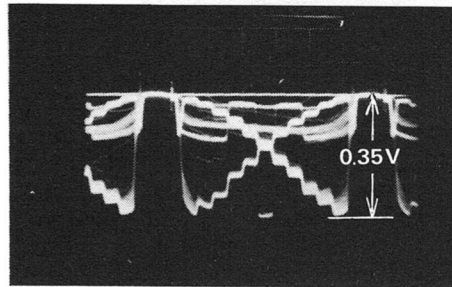

Fig 7.35
- (1) Remove the lens cap to focus on the grey-scale pattern and effect the procedure detailed in Section 7.2.7.1 (TP-1 = 0.6V)
- (2) Attach the red filter to the lens and connect the oscilloscope probe between terminals TP-5 and TP-E on the Video Process PCB (CA 1501A)
- (3) Adjust VR41 **2R + B GAIN** volume on CA 1501A to set the (2R + B) gain to 0.4V as shown in Figure 7.35.